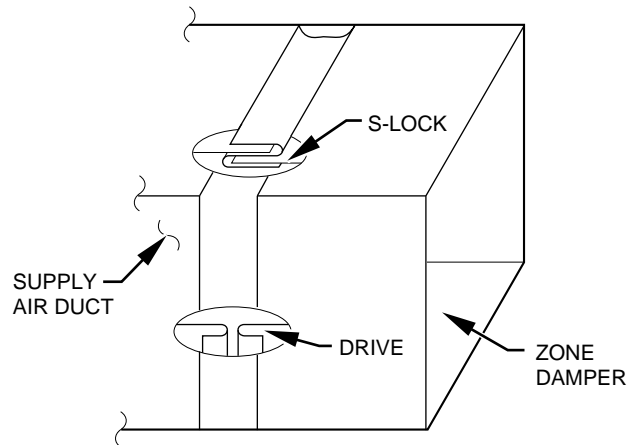

Fig. 3—Rectangular Metal Duct Work
1. Make connections using S-lock and drives. (See Fig. 3.)